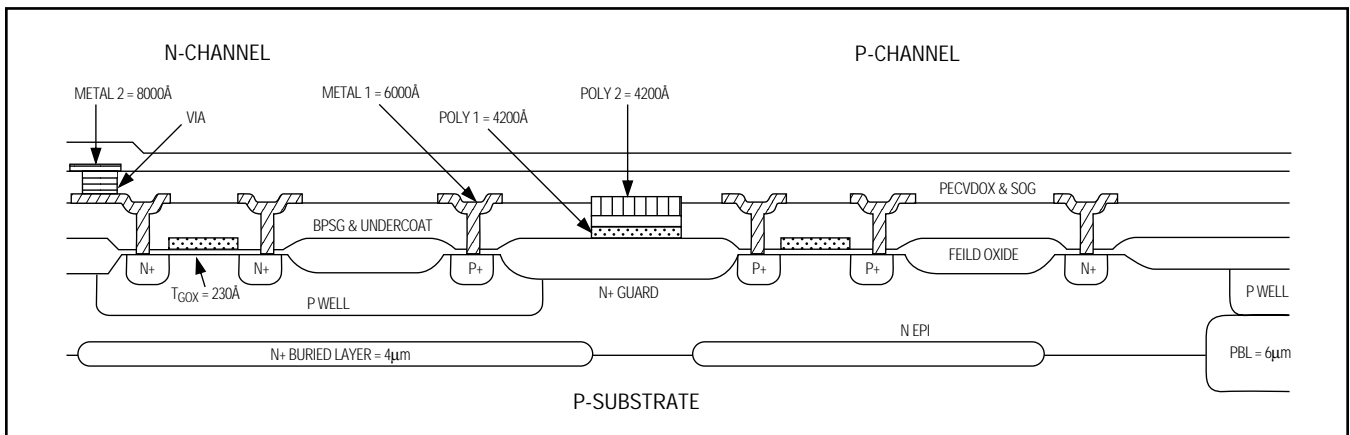

Figure 6. SG1.2 Process
### (6) SG1.2 (Refer to Figure 6)